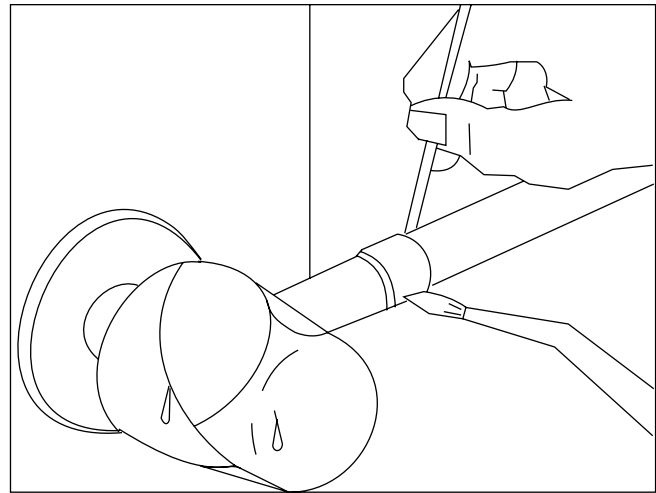

FIGURE 4: Heat Protection
5. Use PVC piping as a conduit for all underground installations as shown in Figure 4. Buried lines should be kept as short as possible to minimize the build up of liquid refrigerant in the vapor line during long periods of shutdown